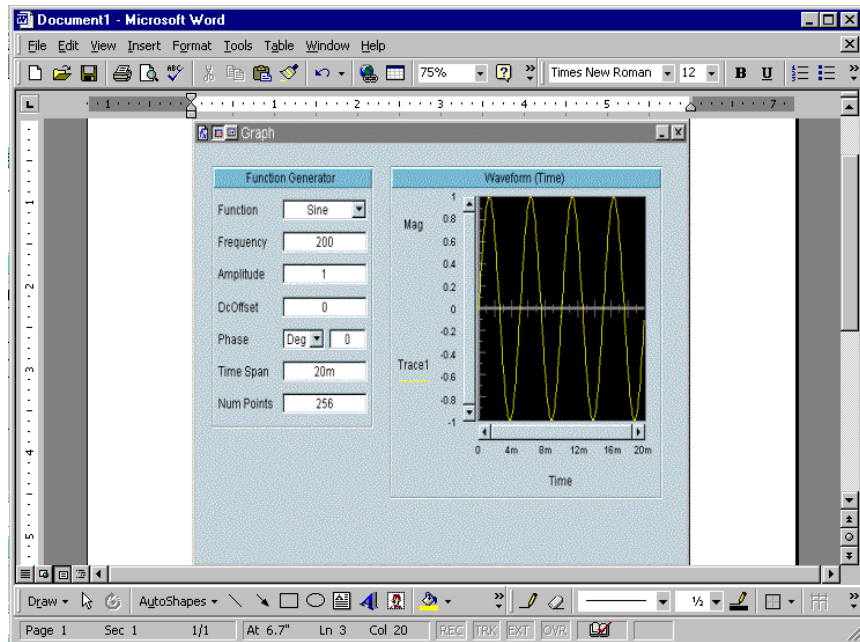

Figure 6-18. The MS Word Document Created by Lab 6-3
9. Run the program. It should look like Figure 6-18. (If the colors look strange in the screen dump, iconize any open applications, so the PC has a full palette of colors to work with.)